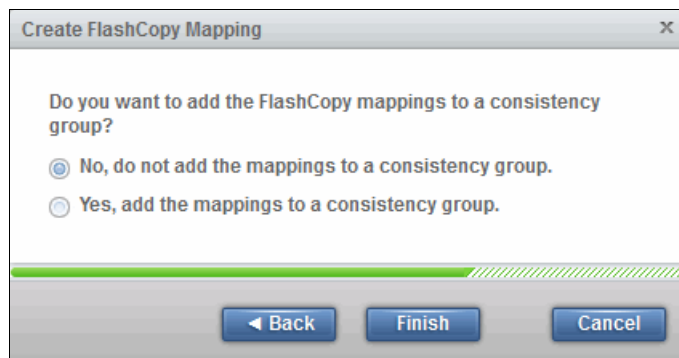

Figure 10-28 Select a preset and make your adjustments
6. You can now add the FlashCopy mapping to a consistency group (if necessary), as shown in Figure 10-28. Selecting **Yes** displays a drop-down menu from which you can select a consistency group. Click **Finish** and the FlashCopy mapping is created with the status of Idle, as shown in Figure 10-28.